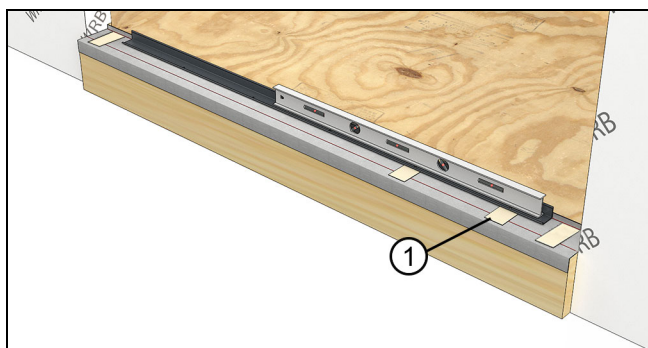

Figure 9
3. Level the sill support and shim if necessary. Use the thin plastic shims provided. Place the shims beneath the sill support installation holes. See Figure 9.